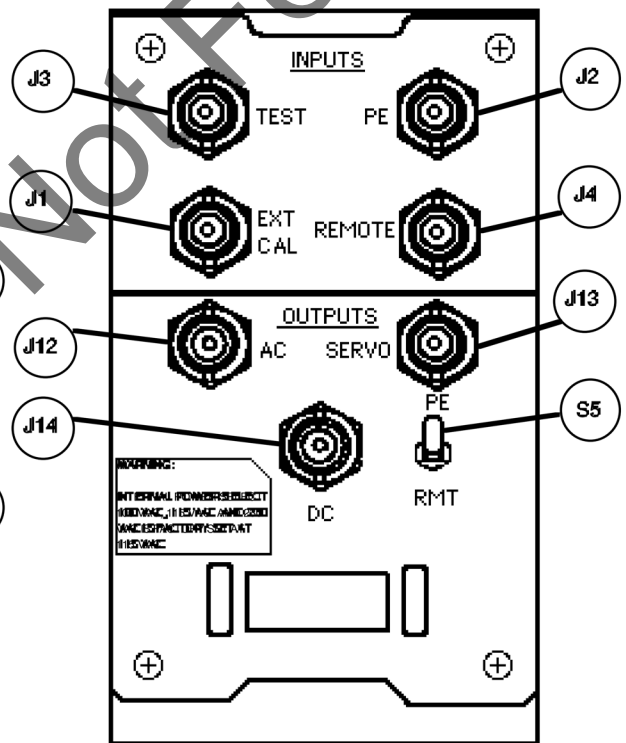

FIGURE 5-2: REAR PANEL CONTROLS
- B. On the back panel (Figure 5-2) set the INPUT MODE switch (S5) to PE.